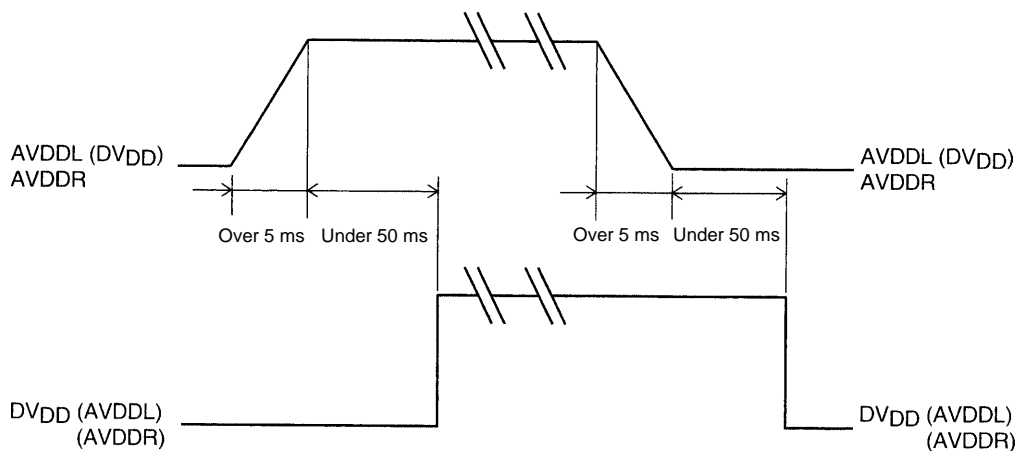

Figure 2
- (2) If the time lag must be over 3 ms, then the rise time for the first power supply to be powered on (or powered off) must exceed 5 ms, and furthermore, the time difference must exceed 50 ms as shown in figure 2.